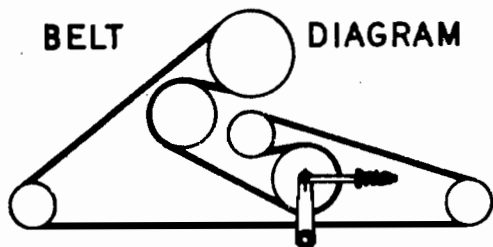

fig 9
- C. Put on new belt as per diagram on mower deck and loosen belt tension, fig 9.